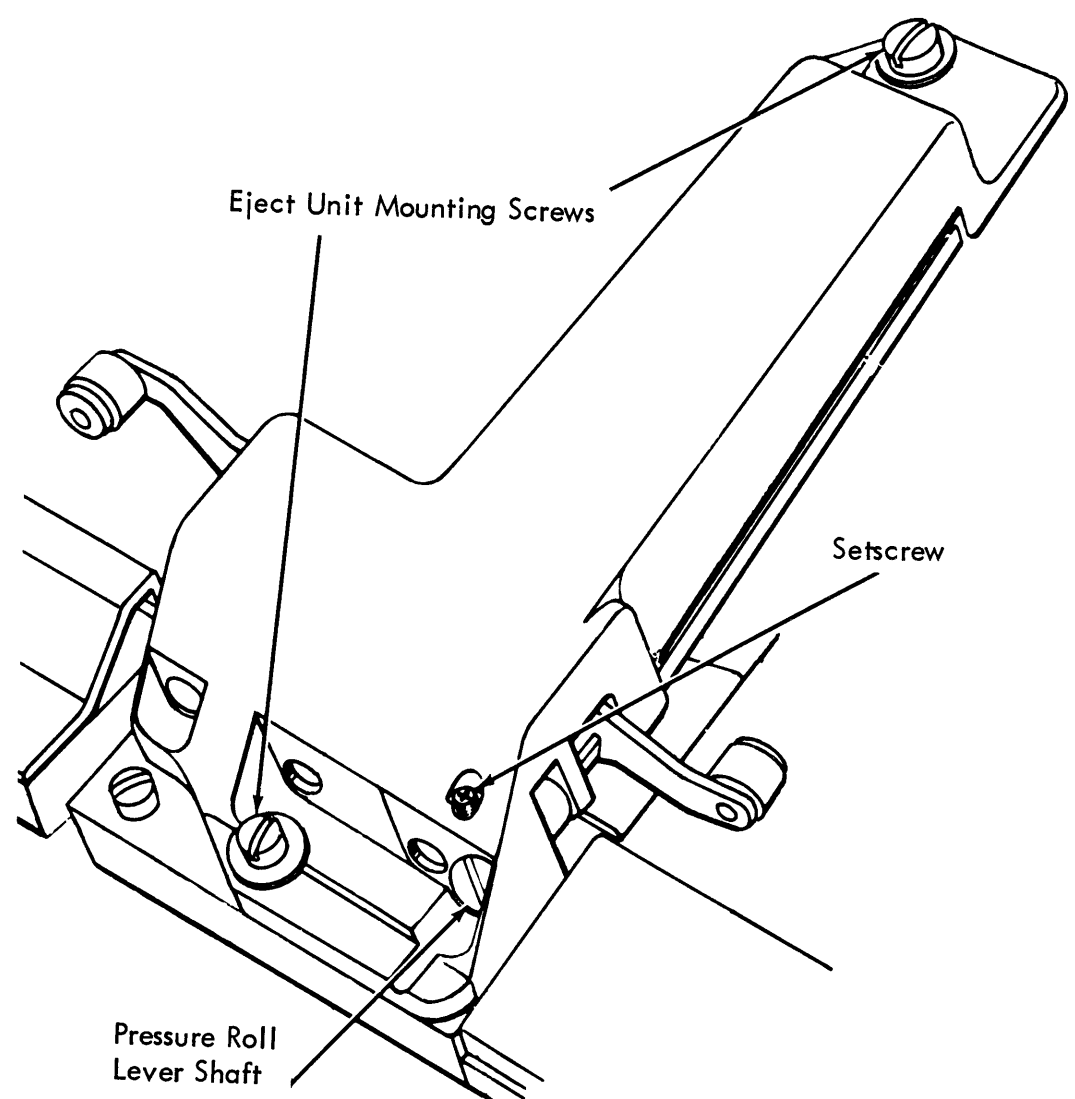

Figure 4-13. Master Station Registration Adjustment
1. Loosen setscrew (Figure 4-13) and rotate pressure roll lever shaft until card does not pull away from upper rail when spacing is performed.